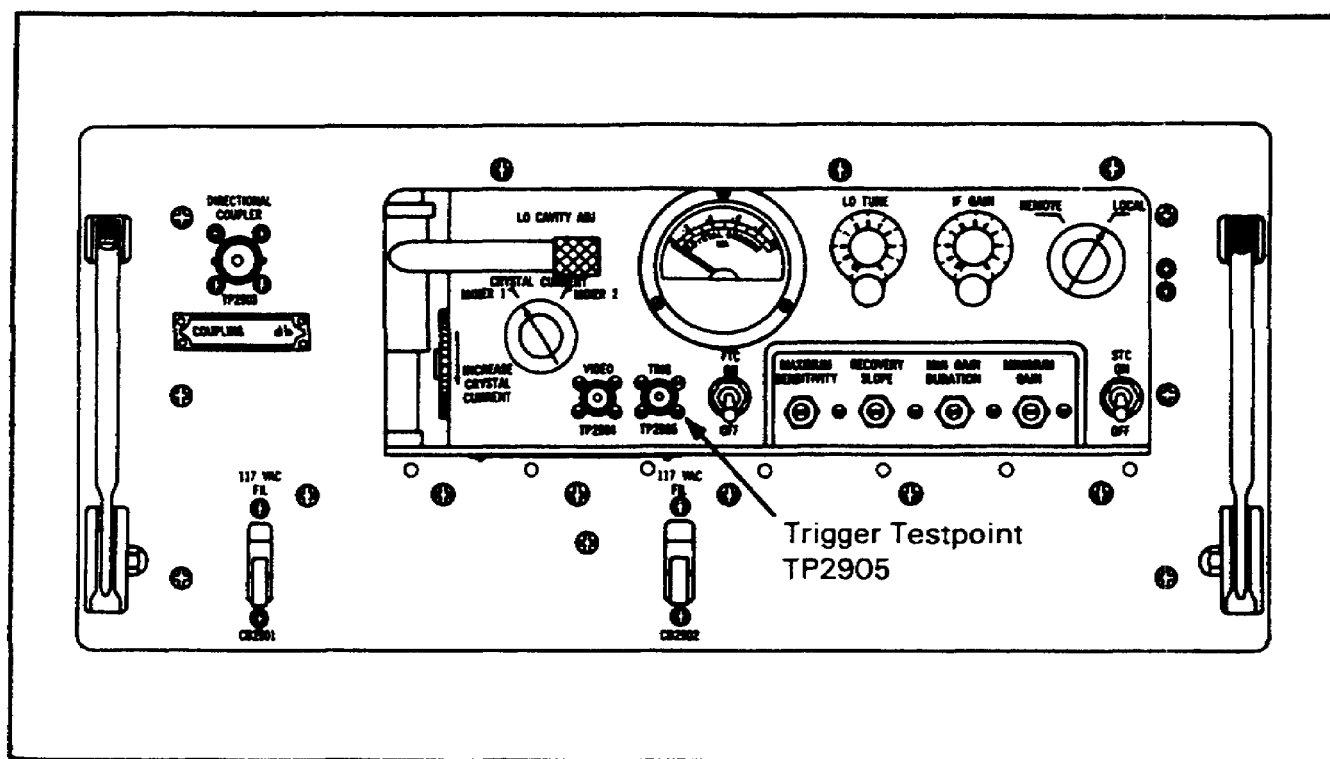

Figure 46. Receiver, radar R-981/FPN-4.
(See Figure 46.)
- _____ Trigger test point TP-2905 on receive chassis (Figure 46)